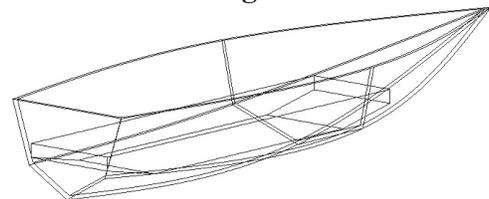

Fig. 10
Step 16. Click OK to use the same distances .2 and 1, **Fig. 10.**